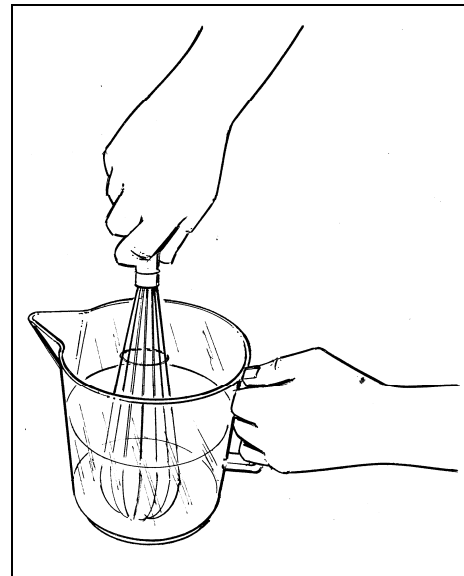

Fig. 2
- Dilute and mix the product in a separate container according to the manufacturer's instructions (see fig.2).